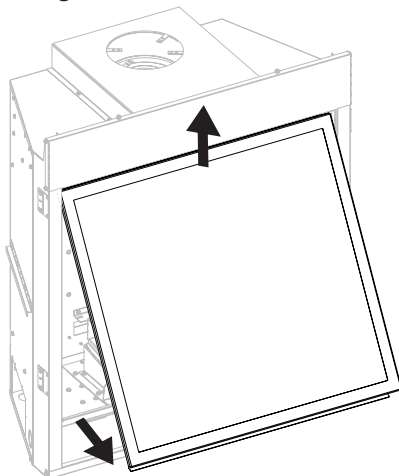

Figure 3
3. Disengage Glass Frame by pulling outward in a swinging motion. Place Glass Frame aside in a safe out-of-the-way location. See Figure 3.